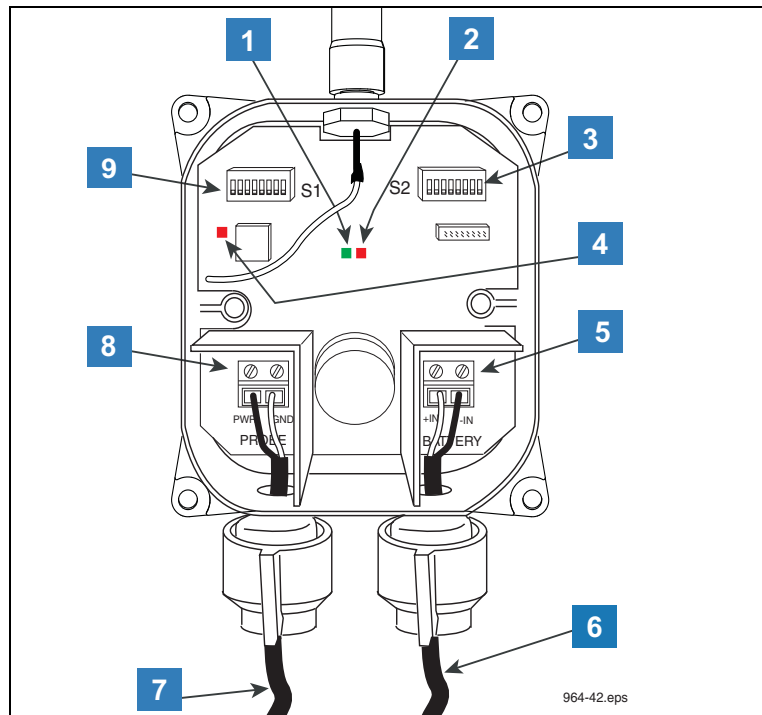

Figure 30. Wiring The Transmitter
5. All probe/sensor cables connect to the PROBE terminal block the SAME WAY - the white wire to the PWR terminal and the black wire to the GND terminal as shown in Figure 30.
8. Connect power cable wires to the BATTERY terminal block placing the white wire in the +IN terminal and the black wire in the -IN terminal as shown in Figure 30.
#### LEGEND FOR NUMBERED BOXES IN Figure 30